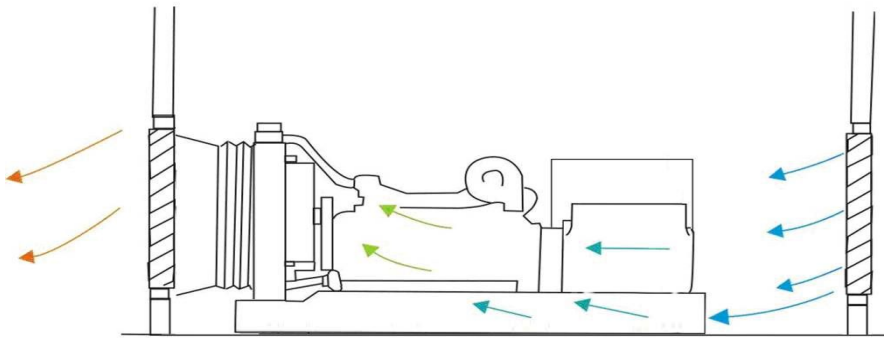

Fig.2-2
- Fig.2-2 Shows the ideal position relationship between the unit and the wall in generator room. Its purpose is to suck the cold air from the lowest place, force it to go through the radiator element, and then exhaust it out of the